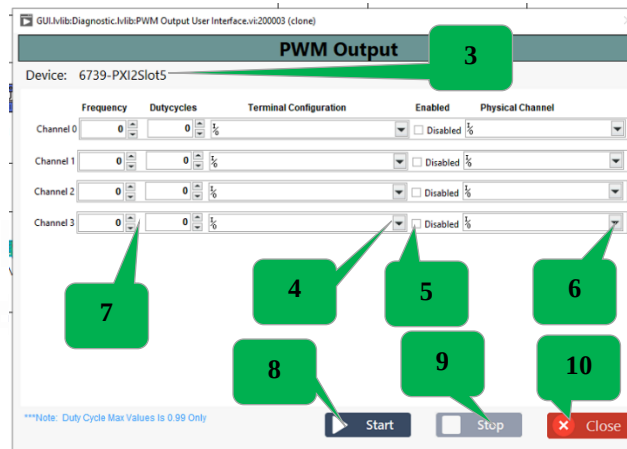

Figure 54: PWM Output
- 2) Click the PWM Output Diagnostic Button and Refer Fig 54.